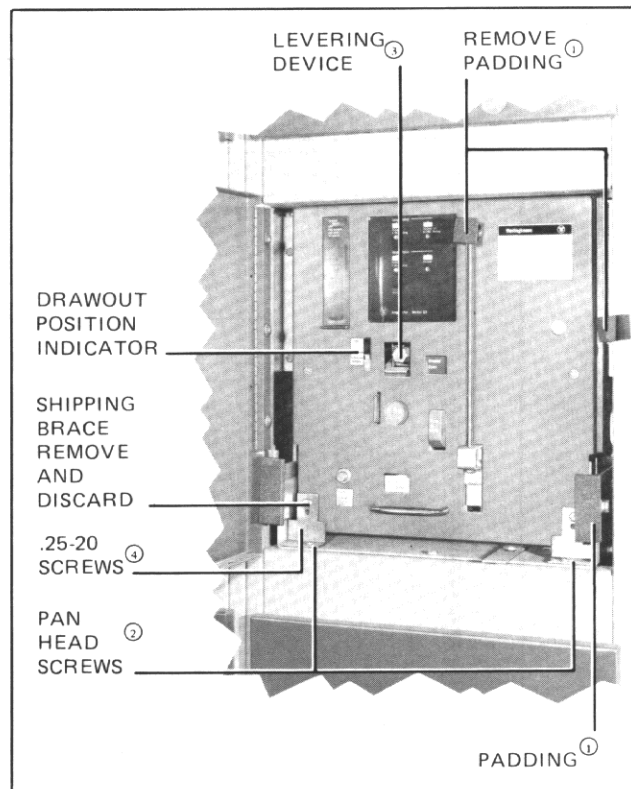

Fig. 33 *Front View of Type DS-416 Breaker Shipped in Compartment (390896)*
Before the circuit breaker element can be withdrawn from its compartment for the first time, the shipping braces must be removed from the lower part of the breaker front panel. Refer to Fig. 33. During shipment, the front wheels of the breaker are lifted approximately 1/16 inch above the compartment rails, and the unit is held part way between disconnected and test positions by means of its levering device.
1. Remove the sponge rubber padding and tape from the compartment rails and the knob on the top of the spring charging handle. (Shown in Fig. 33.)
2. With a screwdriver, remove the two (2) outside .25-20 pan head screws from the bottom leg of the shipping braces. Do not discard, as later they will be returned to their tapped holes. Do not remove the center screw.